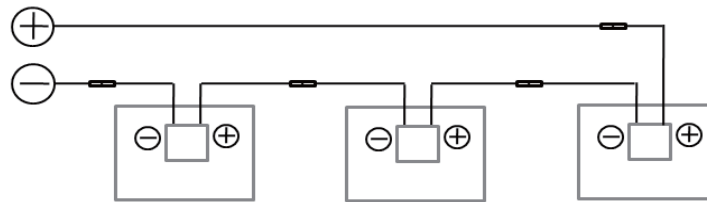

Fig. 9-1 Series Connection
- The Direct Current (DC) generated by the PV system can be converted to Alternating Current (AC) and connected to the public power grid. Different regions may have different policies, laws and regulations to stipulate the installation and grid-connection requirements of PV systems. Therefore, during the design, installation and grid-connection of PV system, please comply with the local policies, laws and regulations.
- In order to ensure the normal running of the system, when connecting modules or loads, please ensure that the polarity of the cable connection is correct. If the modules are incorrectly connected, the bypass diodes and junction boxes may be damaged. PV modules can be connected in series (Fig. 9-1), in parallel (Fig. 9-2) and in series-parallel (Fig. 9-3). The number of serial or parallel connections shall be reasonably designed according to the system configuration. Also note that if the number of parallel connections ≥ 2 , there must be an over-current protection device on each string assembly.